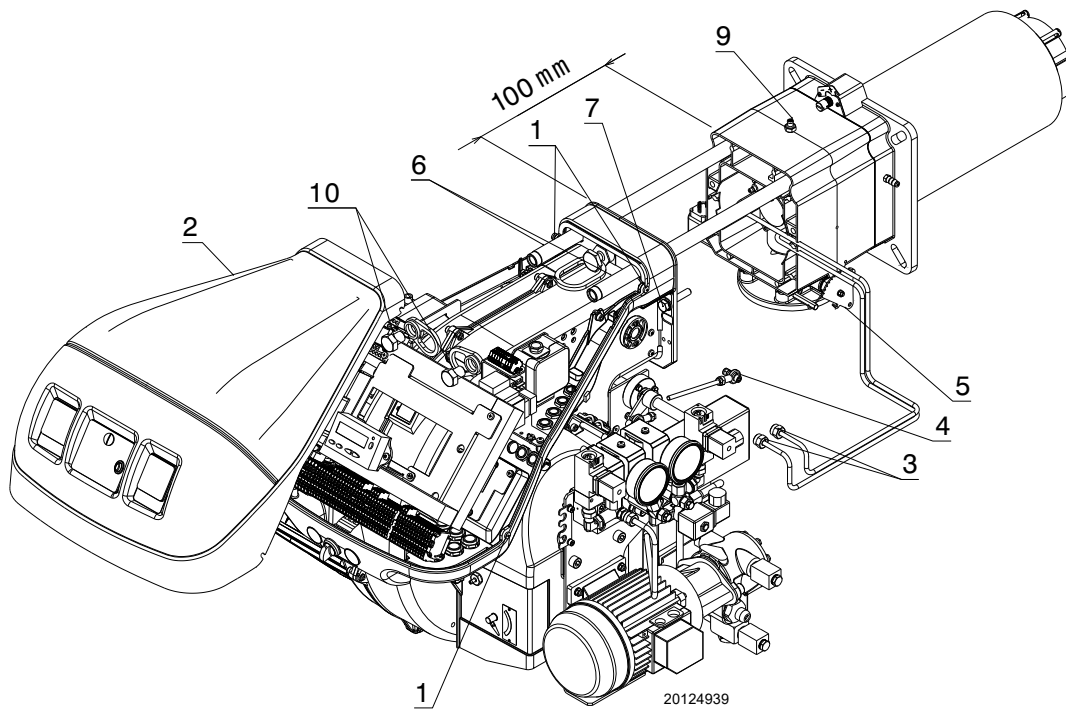

Fig. 59
- Loosen the 4 screws 1)(Fig. 59) and remove the hood 2);